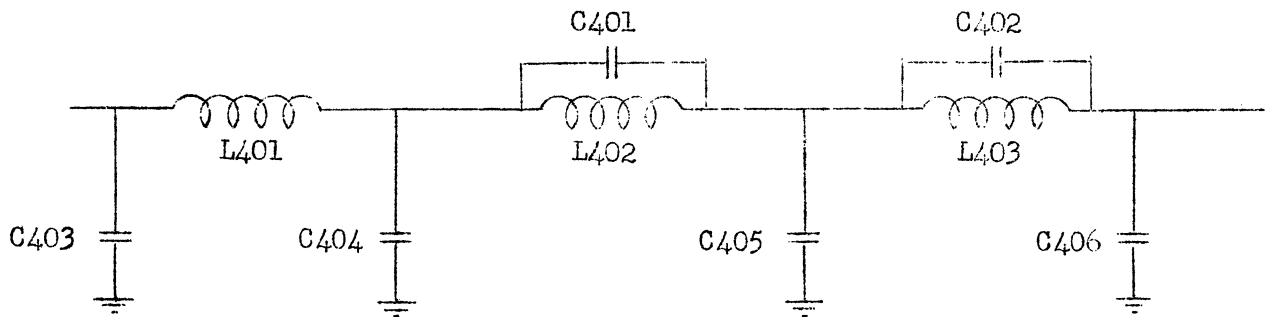
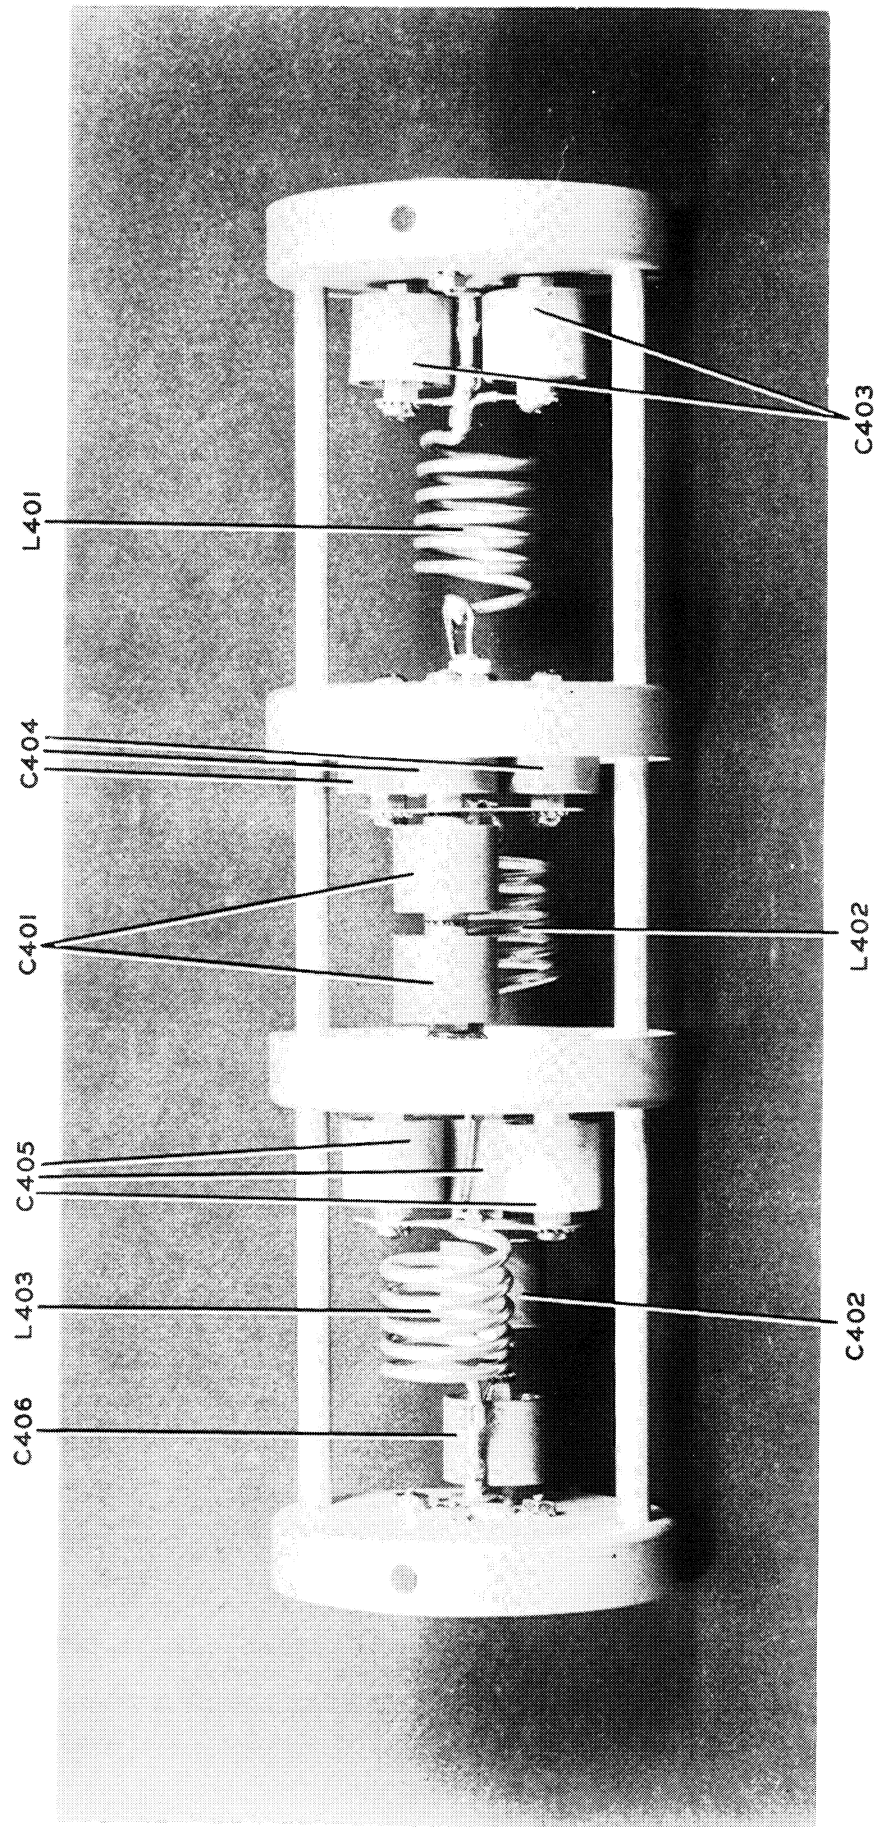

Figure 2 35C-1 Filter Schematic
FIGURE 3. 35C-1 LOW PASS FILTER - INSIDE
- Figure 2 35C-1 Low Pass Filter Schematic
- Figure 3 35C-1 Low Pass Filter Photograph - Open
The Collins Model 35C-1 Low Pass Filter is designed for television interference elimination where the interference is of harmonic origin. Refer to figure 2 and figure 3.